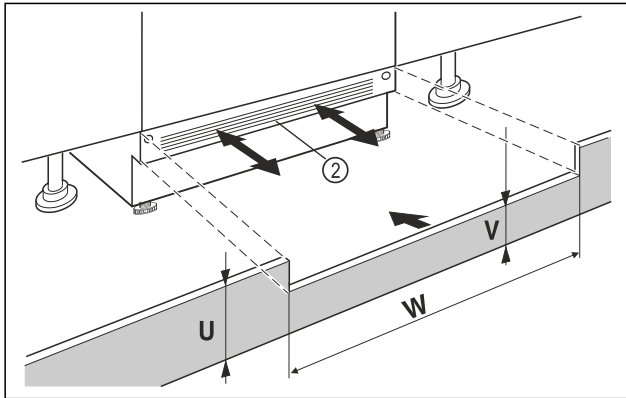

Fig. 37 Example illustration
- Put on the appliance base cover Fig. 37 (2) but do not fix it yet.
- If the base cover Fig. 37 (2) is visible, pull it so far forward that the front edge of the ventilation grille and the unit base cover form one level.
- If the base cover is concealed Fig. 37 (2), push it all the way back.
- Ensure that the ventilation slots are completely free: If necessary, cut the height of the unit base cover Fig. 37 (U) to size!
- Adjust the bar height Fig. 37 (V) under the appliance base cover Fig. 37 (2) along the recess width Fig. 37 (W).